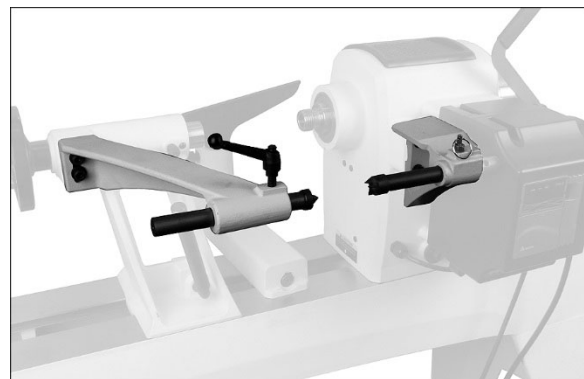

Figure 5-7: installing comparator (optional)
1. Install comparator *spur center* into guard bracket, by lifting up on plunger and inserting comparator spur center until its point is about even with the point of the spur center in the headstock spindle. See Figure 5-7. The plunger in the bracket should engage one of the holes in the comparator center at this position.
2. Install comparator bracket to tailstock with provided fasteners (Figure 5-7). Hand tighten only.